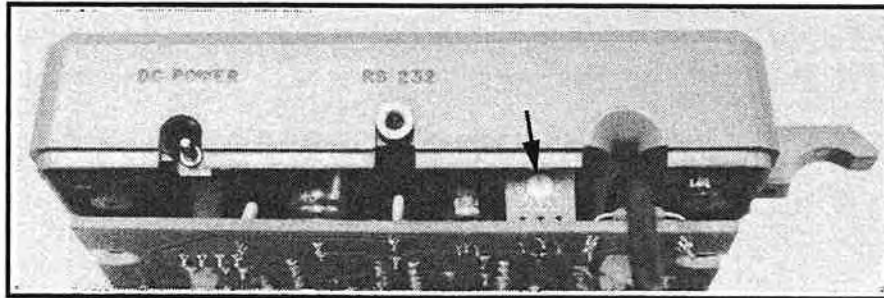

Figure 16. Potentiometer used for adjusting the calibration
- 3 Find potentiometer RA3 on the printed circuit board. It is located near where the probe cable enters the case (see figure 16).